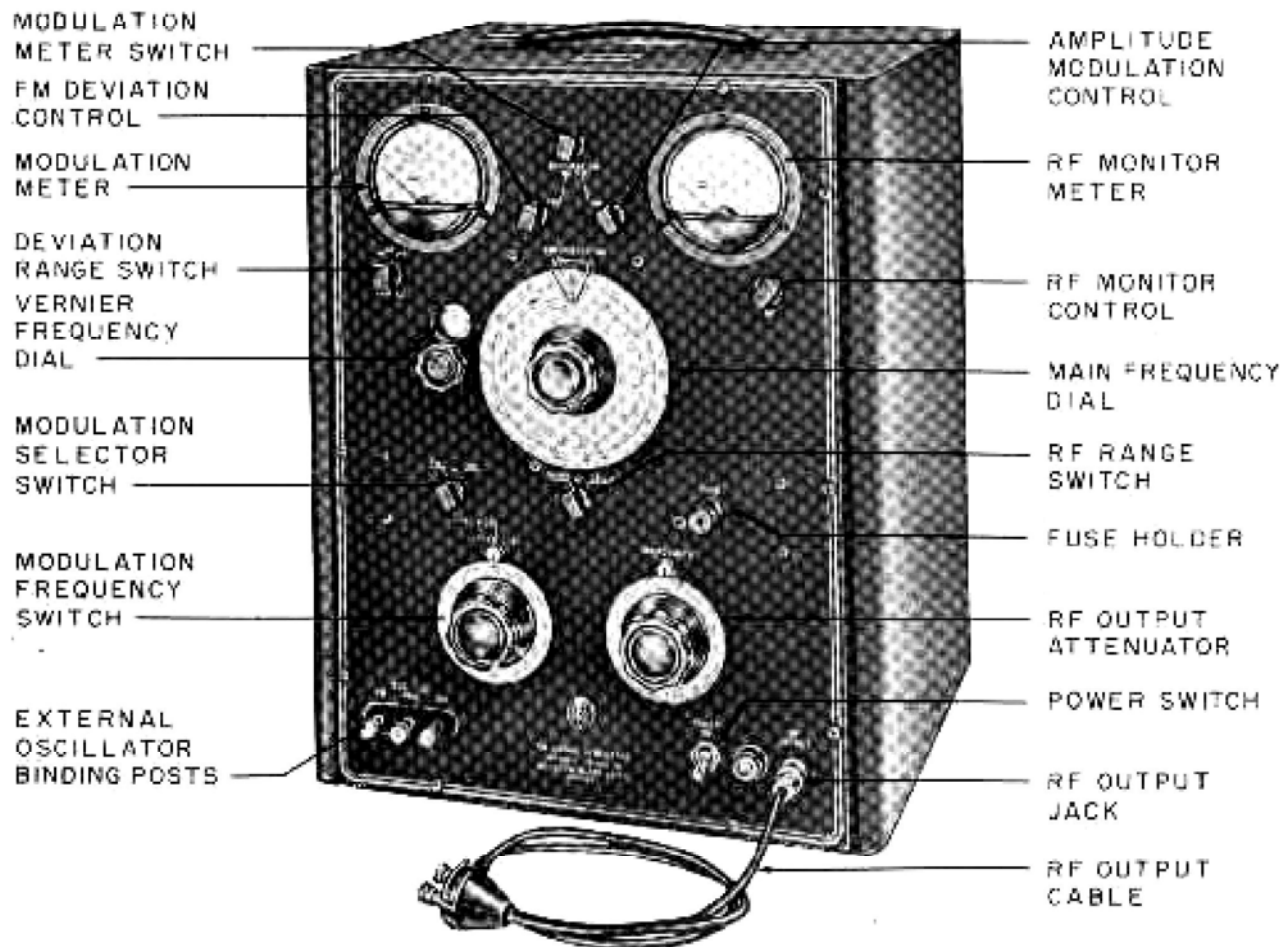

Fig. 2. Front Panel Controls of 202-B AM-FM Signal Generator
a. PRELIMINARY (Fig. 2).
c. OPERATING CONTROLS (Fig. 2).